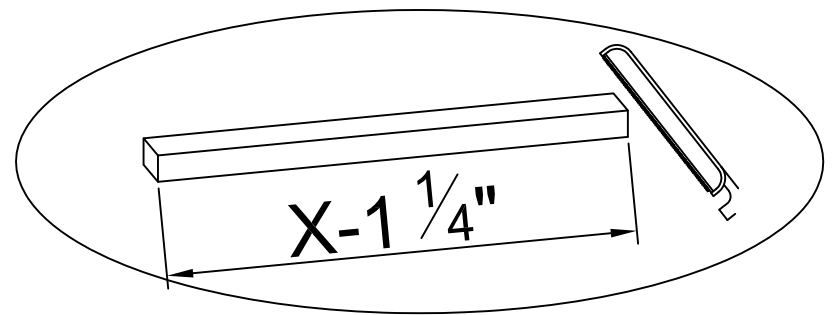

Fig.29
Cut the threshold bar (11) to the size of : $(X) - 1\frac{1}{4}$ ". Remove any sharp edges or burrs after cutting Door Threshold bar (11). See Fig.29 for details.